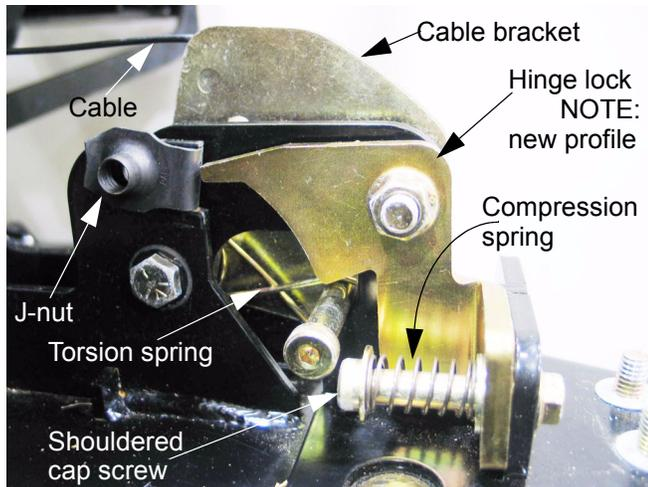

Figure 11.1
11.1. When the wing lift is activated, all four cables, hinge locks, and lift mechanisms should work in unison: See Figure 11.1.